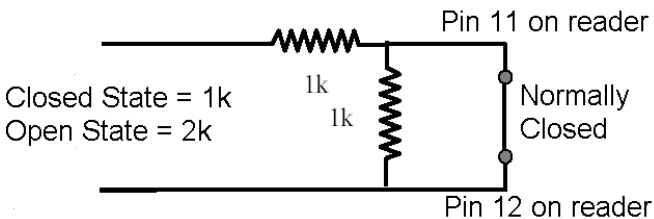

FIGURE 3. Normally Closed Wiring for Reader Tamper
5. For tamper wiring, connect Pins 11 and 12 to a normally closed supervised input, as shown in Figure 3.